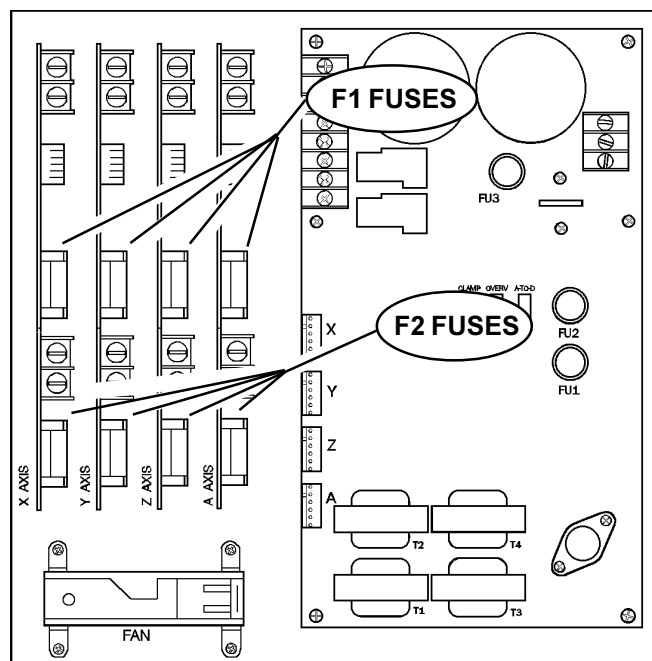

Fig. 5-1 Servo drive assembly; fuse locations.
7. Replace by sliding the new assembly onto the eight bolts (four each on top and bottom). Starting with the bottom right, place the washers and hex nuts on the bolts to hold in place. Refer to Fig. 5-1 for the order of replacement.